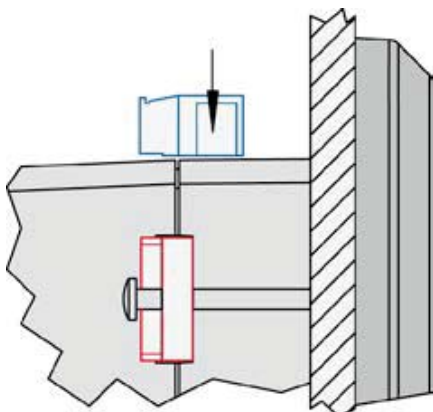

Fig. 17: Reattach terminals
7. → Reattach the wire connection terminal strip (Fig. 17) and secure them with the side screws.